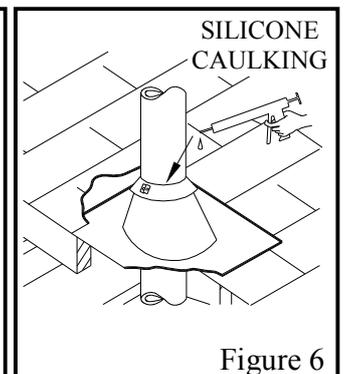

Figure 6
- 8 Place the storm collar over the chimney and the flashing. Tighten it with the bolt supplied making sure the joint is properly caulked (see Fig. 6)